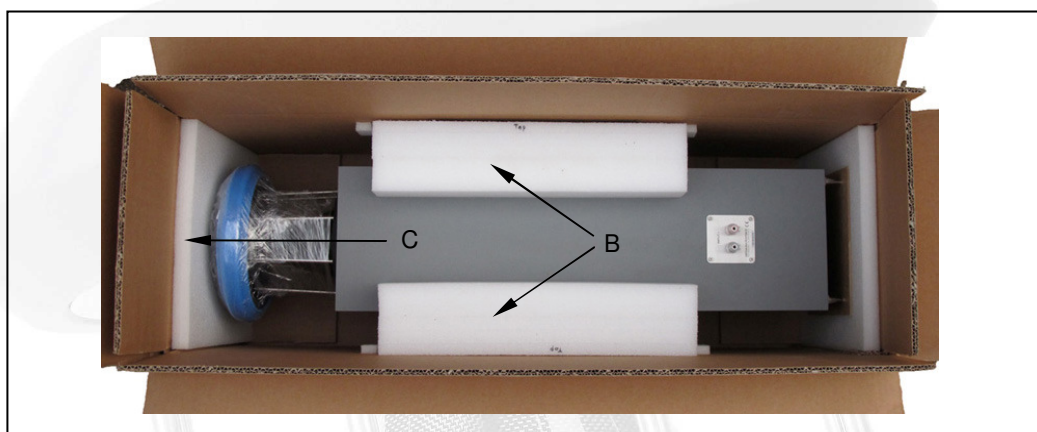

Figure 2. Unlimited Mk II Shipping Carton
3. Open the flaps on the inner carton and remove the three foam packing pieces B and C in figure 2.